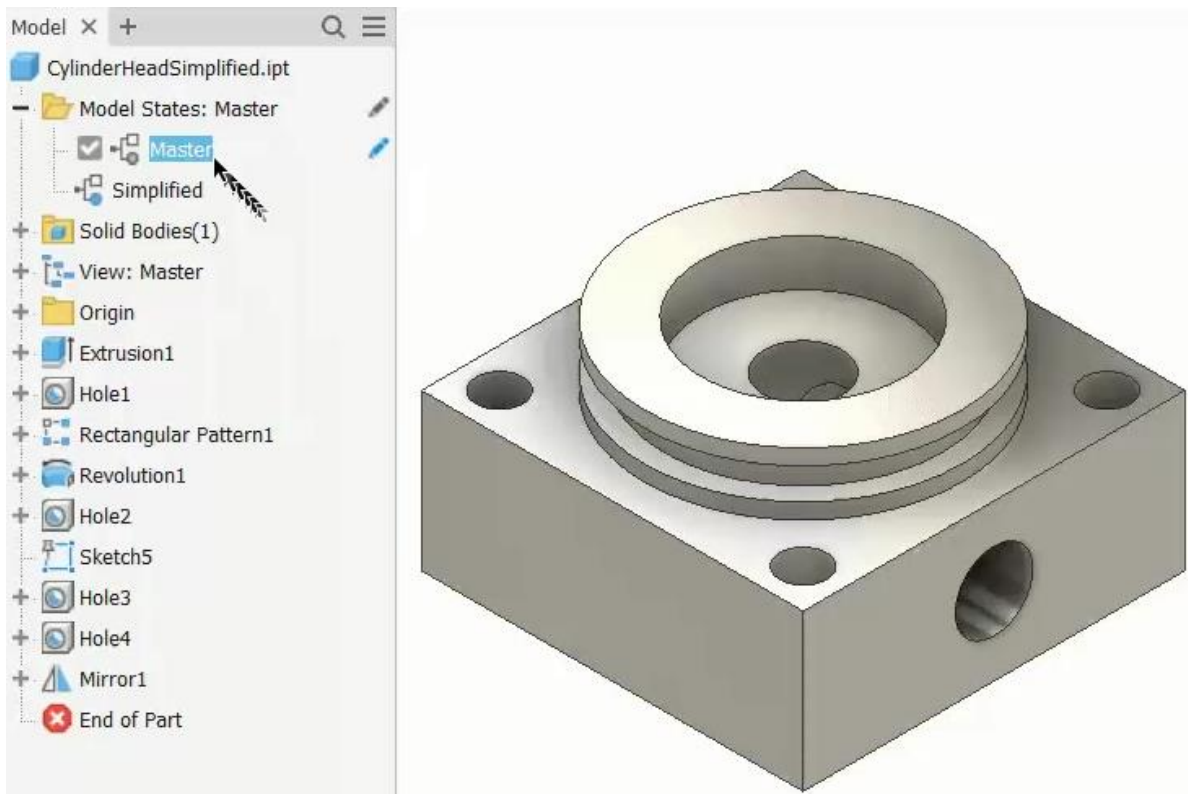

Figure 1 - The Master model state.
- The model with all details is created in the Master or Primary model state and is used to create the drawings used for manufacturing. See Figure 1.